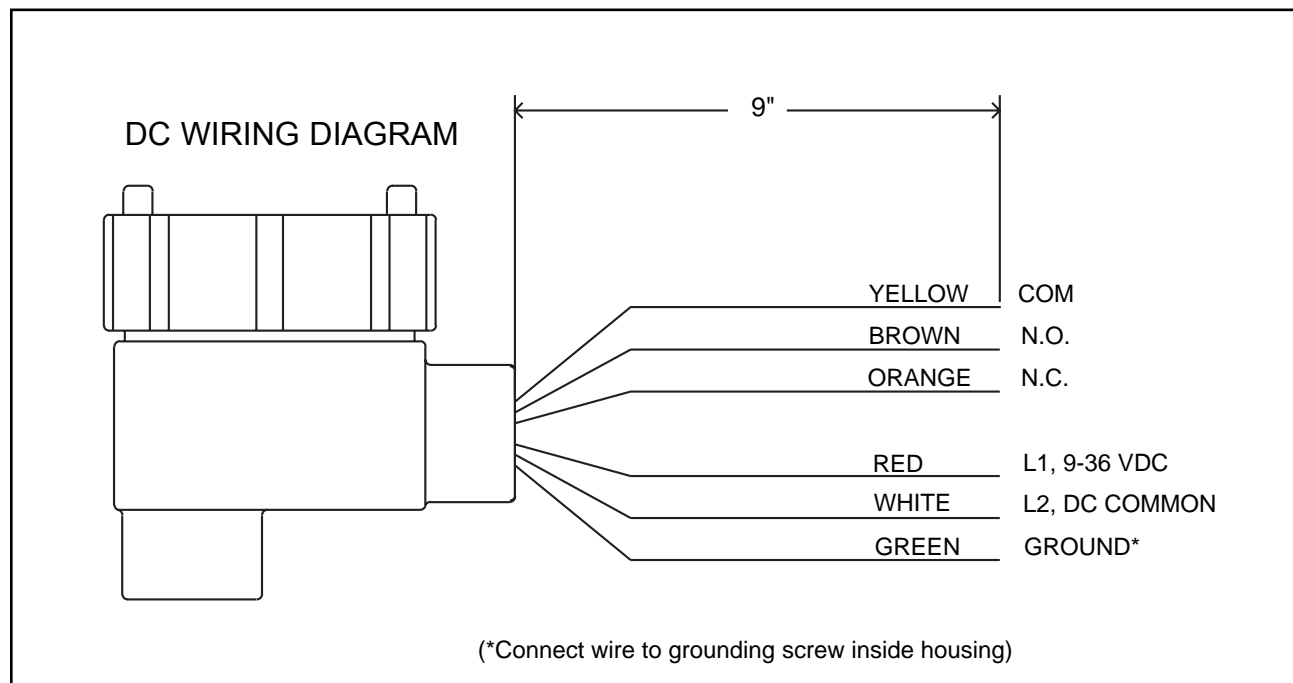
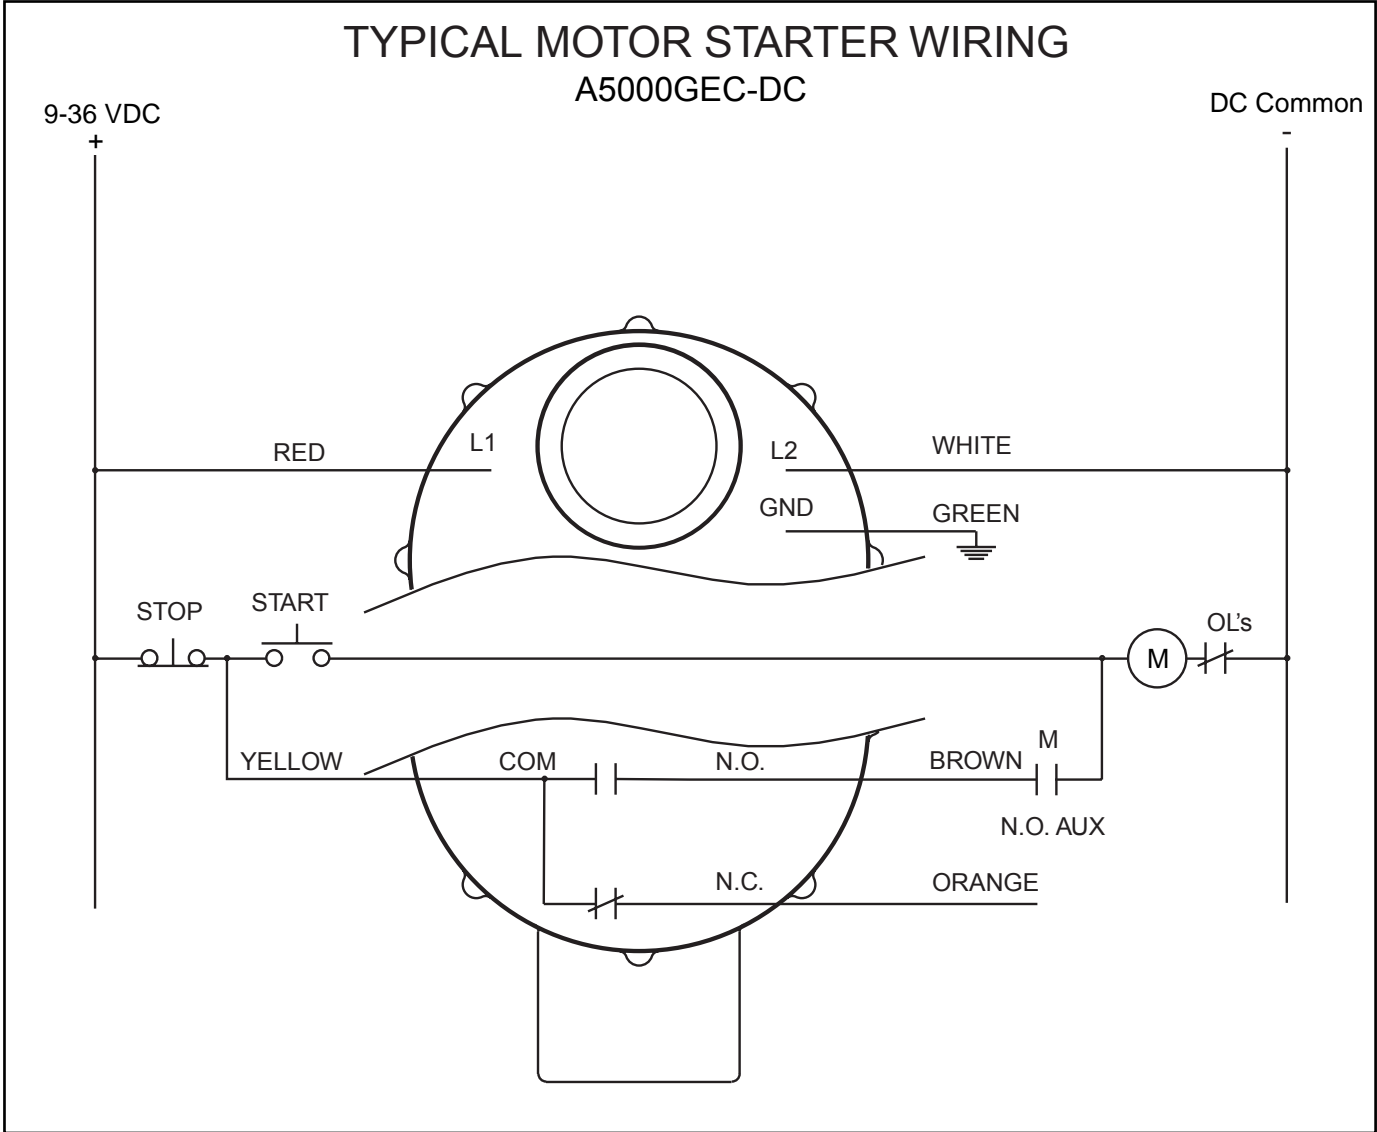

Figure 3
Figure 4
5.1 Power connections and relay connections to the A5000GEC-DC zero speed switch are shown on figure 3, page 4. Also, figure 4 & 5, page 5 & 6 show typical wiring diagrams.
5.2 Connect 9-36 VDC to L1 (red, +) and L2 (white, -). Connect the equipment safety ground to the grounding screw inside the A5000GEC-DC housing. (see figure 3, page 4)